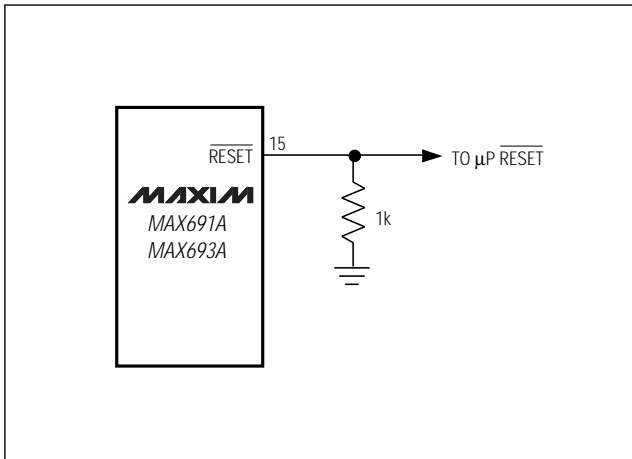

Figure 1. Adding an external pull-down resistor ensures  $\overline{\text{RESET}}$  is valid with  $V_{CC}$  down to GND.
guaranteed to be valid down to VCC = 1V, and an external 10kΩ pull-down resistor on RESET insures that it will be valid with VCC down to GND (Figure 1). As VCC goes below 1V, the gate drive to the RESET output switch reduces accordingly, increasing the RDS(ON) and the saturation voltage. The 10kΩ pull-down resistor insures the parallel combination of switch plus resistor is around 10kΩ and the output saturation voltage is below 0.4V while sinking 40μA. When using a 10kΩ external pull-down resistor, the high state for RESET output with VCC = 4.75V will be 4.5V typical. For battery voltages ≥ 2V connected to VBATT, RESET and RESET remain valid for VCC from 0V to 5.5V.